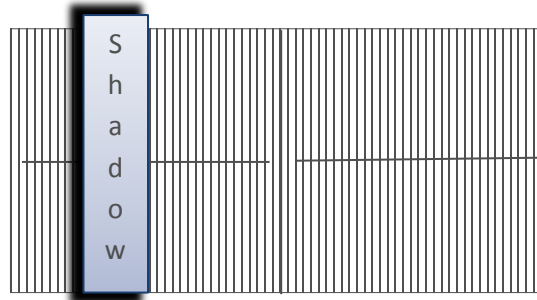

Figure 1. Example of "High Risk" shading
1. Resting or adhering slender objects (tools, brooms, clothing, wires, tape) on sunny side of operating modules, or within inches above operating modules, especially when shadow oriented parallel to cells, can create high risk of undesirable shading. An example is shown in Figure 1